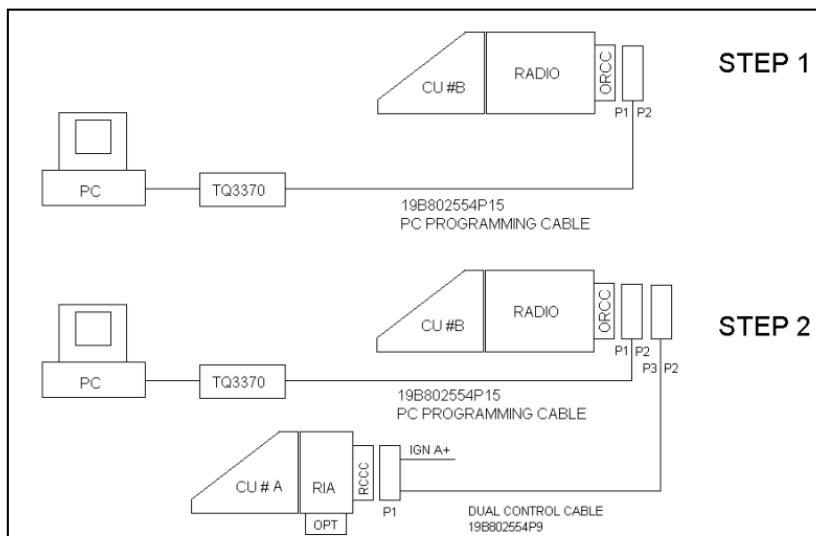

Figure 31 - ORION Dual Control Unit PC Programming Configuration
1. Configure the ORION Front Mount Radio with the PC Programming Assembly, as shown in Figure 31, Step 1. Program the radio with the following files:
2. Now configure the Front Mount Radio and the Auxiliary Control Unit together with the PC Programming Assembly, as shown in Figure 31, Step 2. Program this configuration with the following files: